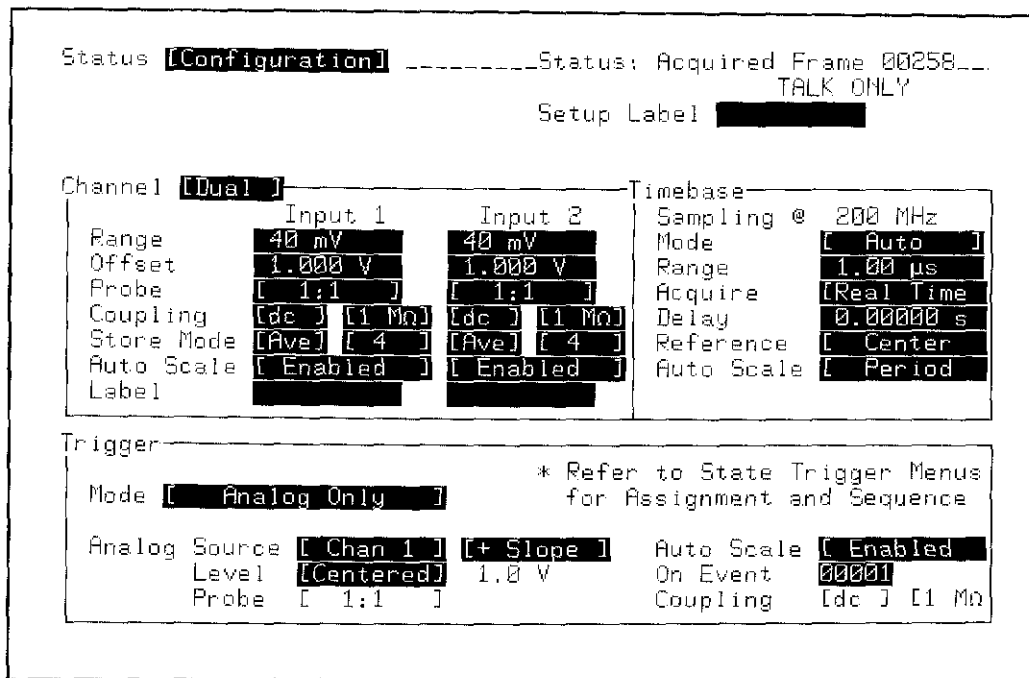

Figure 3-2. STATUS Configuration Menu
1. Configure STATUS Configuration menu as shown in figure 3-2.